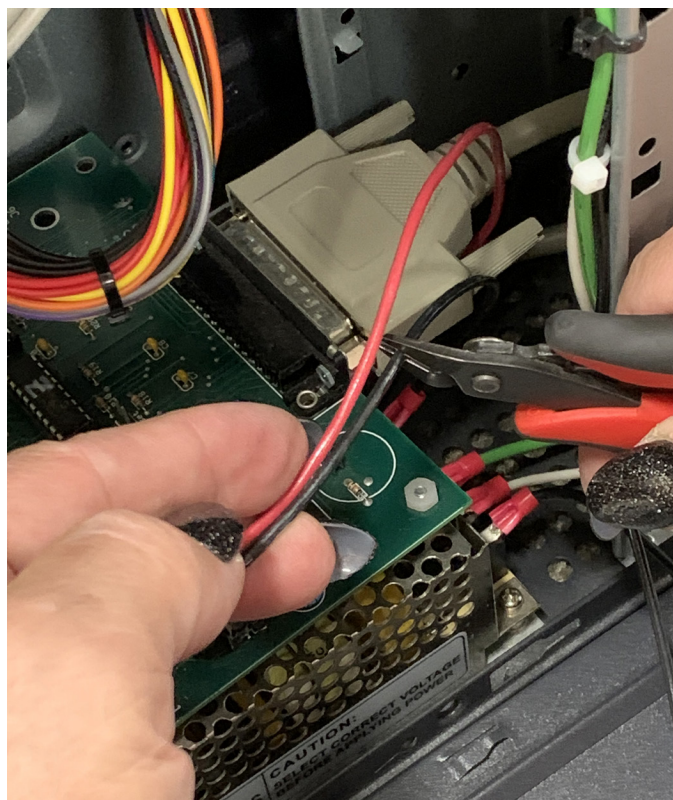

FIGURE 10—Black wire.
8. Now cut the red and black power wires that go to the board (see Figures 10 and 11). Be sure to cut it in a place that will leave approximately 3" to 4" of wire connected to the board. You will be using the power wires that are connected to the board to get power to the board when you use it.